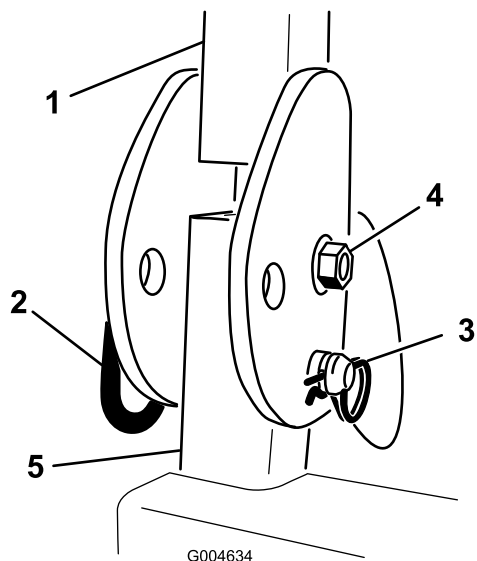

Figure 93
39. Position the ROPS assembly onto the ROPS posts. Install the bolt, nut, hair pin cotter and pin securing each ROPS assembly to the ROPS posts (Figure 93).